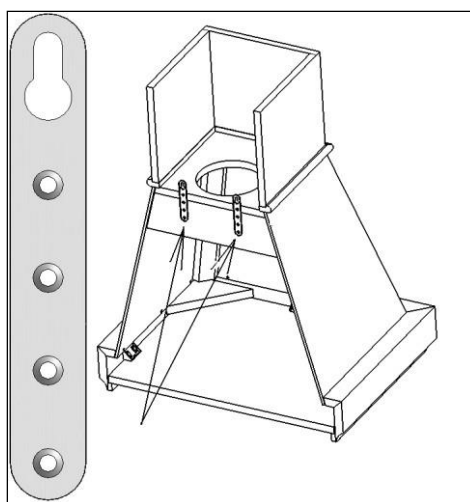

Fig. 18
1. Fix two non-adjustable brackets to the back plate of the duct using screws 4x16 (Fig. 18).